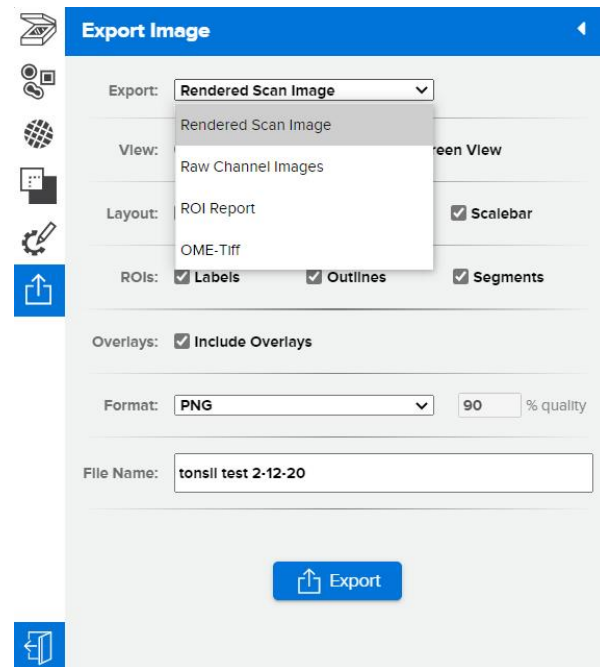

Figure 43: Export image menu - rendered scan
2. The default view is **Rendered Scan Image** (see Figure 43); choose this for a full-color publication-quality image.